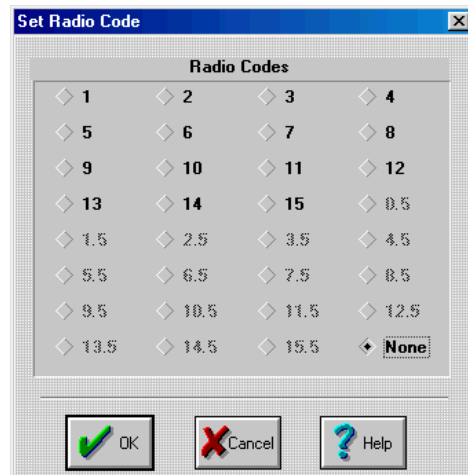

FIG. 17 Set Radio Code dialog
1. Open the target wireless transmitter overlay. Then, click Panel > Radio Code to open the Set Radio Code dialog (FIG. 17).